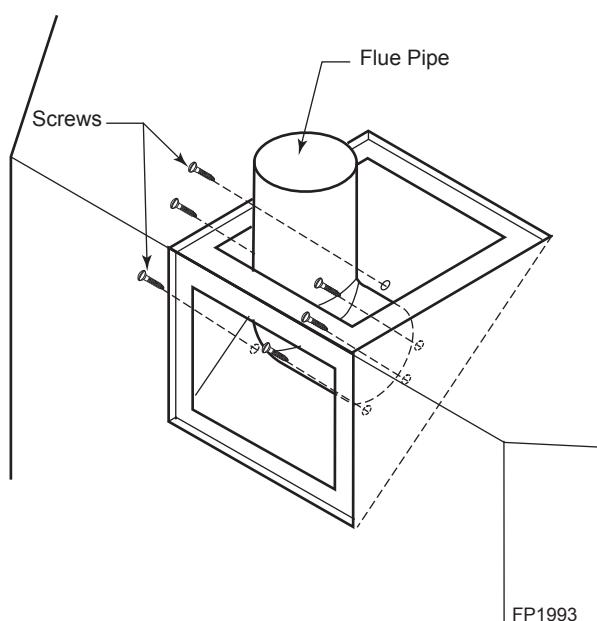

Figure 9 -
5. Replace the flue pipe to top of firebox. Ensure the gasket is in place and undamaged. Secure with six (6) screws. *Figure 9*
7. Refit the flue pipe adapter and gasket to the top of fireplace. Secure the adapter with six (6) screws removed in Step 1.